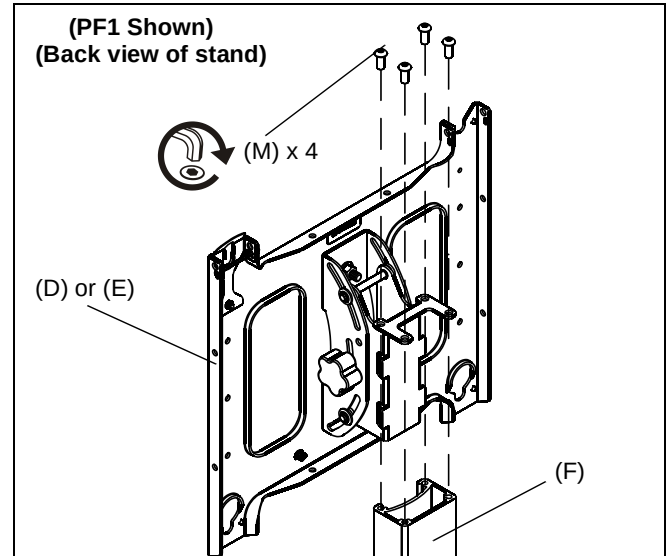

Figure 7
- Attach head assembly (D) or (E) to the stand assembly using four 5/16-18 x 3/4" button head cap screws (M). (See Figure 7)